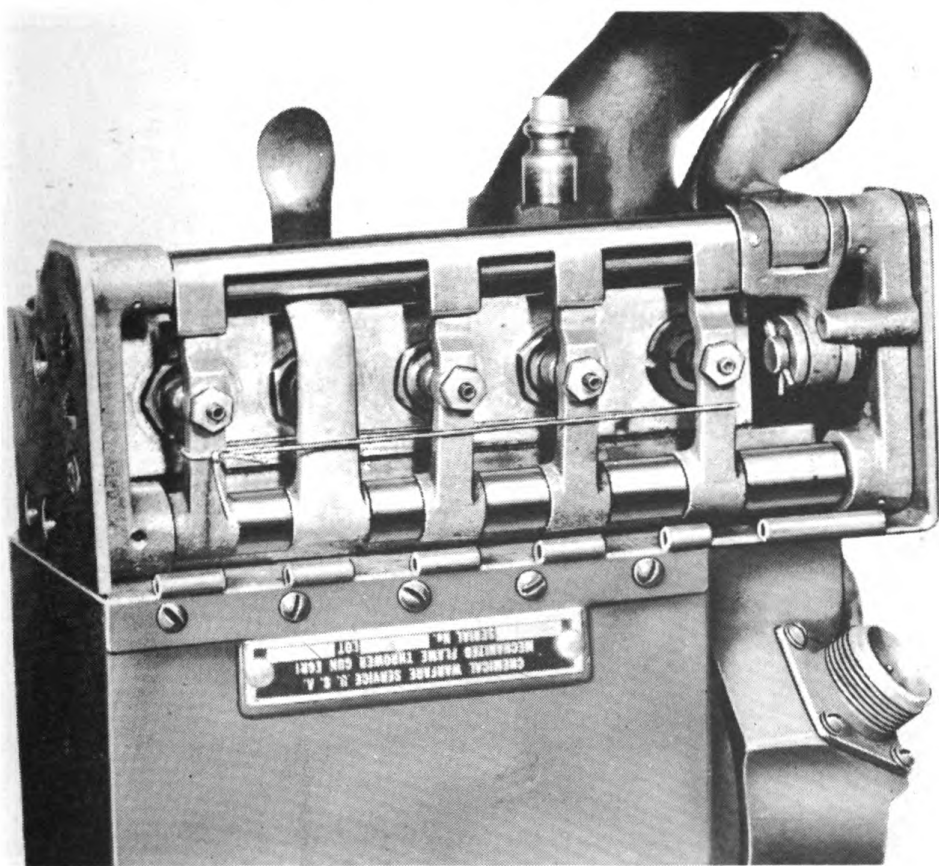

Fig. 103. Control levers tied together for removal.
- Tie the control levers to one another with a piece of string or wire (fig. 103).